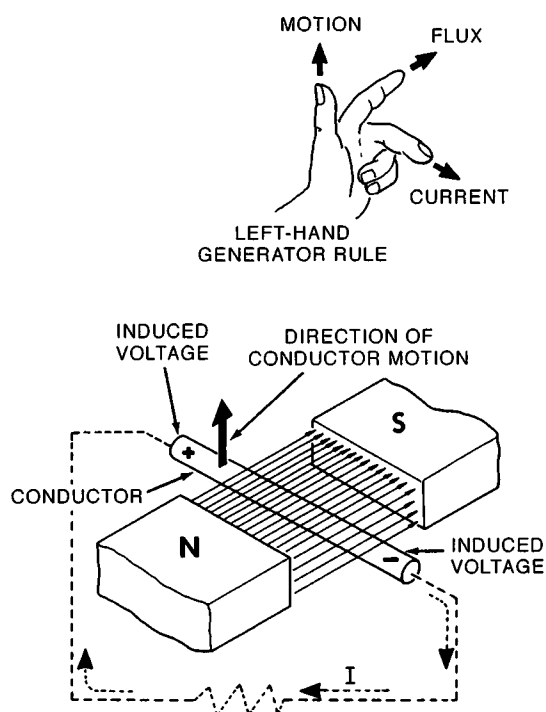

Figure 1-4
In Figure 1-4, notice that a short wire or conductor has been inserted into the magnetic field that exists between the north (N) and south (S) poles of two magnets. When you move the conductor upward through the magnetic field, it cuts across the magnetic lines of force (also called flux lines) that are produced by the magnets. As the magnetic flux lines pass through the conductor, the free electrons in the conductor are forced to move. These free electrons move towards one end of the conductor, which leaves a deficiency of electrons at the other end. This excess and deficiency of electrons causes the opposite ends of the conductor to take on negative (–) and positive (+) charges as shown. In other words, a difference of potential or voltage is developed across the conductor.
The voltage that is developed across the conductor shown in Figure 1-4 results due to the relative motion between the conductor and the magnetic lines of force. This relative motion must exist in order for a voltage to be produced. The conductor may move while the field remains stationary, or you could hold the conductor stationary while you move the field. Either condition produces a voltage. If there is no relative motion, no voltage is produced.
The voltage produced within the conductor is generally referred to as an *induced* voltage. This voltage is induced within the conductor regardless of whether there is current flowing through the conductor or not. In fact, a continuous current cannot flow through the conductor unless there is a **complete** circuit. You might form such a circuit by connecting a load (such as a resistor) across the conductor as shown by the dashed lines in Figure 1-4. Current could then flow through the load resistance as shown.
The direction that the conductor is moving and the direction of the magnetic field determine the polarity of the voltage induced within the moving conductor. Note the direction of conductor motion and the direction (north to south) of the magnetic flux shown in Figure 1-4. Note the polarity of the induced voltage and the direction that current travels when a complete current path is provided. If you reverse either the direction of conductor motion or the direction of the magnetic flux, the polarity of the induced voltage is reversed, and current flows in the opposite direction.
You can use the left-hand generator rule, illustrated in Figure 1-4, to determine the direction of current flow or the polarity of induced voltage within a conductor. When you position your left hand as shown, your thumb indicates the direction of conductor motion, your index finger points in the direction of magnetic flux, and your middle finger, which is bent out from the palm at a 90 degree angle, points in the direction of the induced current.
The angle at which the conductor cuts the magnetic field also affects the induced voltage. When a conductor moves at a right angle (90 degrees) with respect to the magnetic field, as shown in Figure 1-4, maximum voltage is induced. When the angle between the field and the direction of conductor motion decreases, induced voltage decreases. This relationship is true regardless of the direction of the induced voltage.